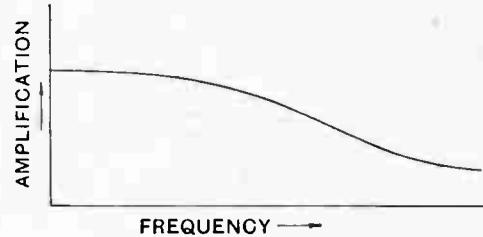

Fig. 4.—Form of characteristic curve obtained with condenser across anode resistance.
Fig. 4 (a).—Distribution of sections in high inductance tapped transformer. S_1 is used to give the correct turn ratio, the other sections being standard. A better arrangement would be to have 4,500 turns on the primaries, giving an inductance of 182 henries. A 3:1 ratio can be obtained by connecting P_3 and P_4 in parallel.
(1) Referring to Fig. 1, if a 0.005 mfd. variable condenser is connected across the resistance in the anode circuit of V_1 the impedance of the resistance condenser unit will decrease with increase in frequency and the characteristic will have a downward slope, as shown in Fig. 4. The result is to attenuate the higher tones relative to the lower and intermediate tones, which remain much as they were. At a certain value of capacity the music or speech will sound muffled.
of transformation from 2 to 3 is to give the speech or music a higher pitch (so far as our auditory organs perceive it), and at the same time to increase the intensity, since the energy is augmented due to the greater transformation ratio. There are three primary sections on the transformer which are interleaved with the secondaries as shown in Fig. 4 (a). There are three ways of obtaining a 3 : 1 ratio, viz., $P_1 P_2$, $P_2 P_3$, or $P_1 P_3$. In each case there is an "idle" primary section. Moreover, the resulting amplification curve is different in the three cases owing to the different relative position of the section and the variation in leakage (coupling). For example, with $P_2 P_3$ the system is symmetrical and the idle section is at the H.T. battery end, where the potential variation is zero. The effect of the idle section is least here and leakage resonance occurs at a frequency of the same order as that for the 2 : 1, i.e., the untapped transformer. Using sections $P_2 P_3$, the idle section P_1 now being situated at the anode end, where the greatest variation in P.D. occurs, the result is rather interesting. (See Fig. 5.) The resonance frequency of the idle section occurs in the region 2,000 cycles to 2,500 cycles, and this amongst other things is responsible for the summit-like aspect of the amplification curve. Whilst the curve would give an overpowering high tone
can readily be accomplished by putting the primary and secondary of a transformer in series and tapping off. The inductances will, of course, depend on the type of transformer. Taking valve V_1 alone, the calculated characteristics with the three inductances are shown in Fig. 6. Thus, with 25 henries the loud-speaker will sound high pitched, with 100 henries it will sound more normal. With 900 henries will be more pronounced than before. The results will depend on the self-capacity of the choke and the impedance of the rectifier. By putting a (variable) condenser across the choke, the characteristic of the detector and choke can be made to droop, as in Fig. 4, so that with the 3 : 1 transformer the overall characteristic is akin to that illustrated in Fig. 7. This